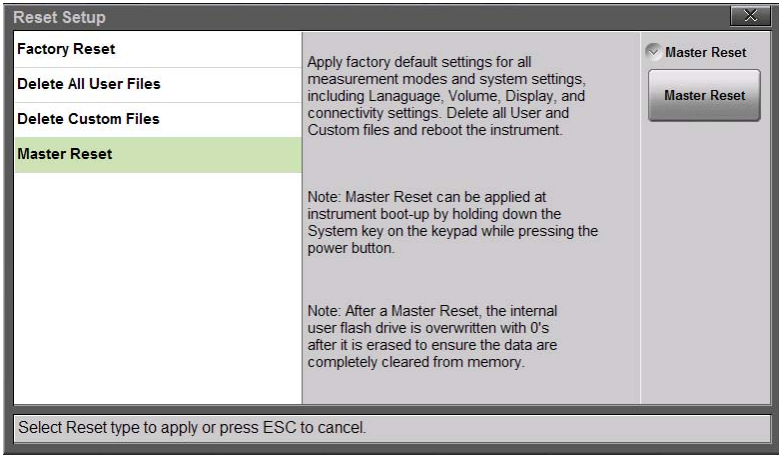

Figure 1-3. Master Reset
1. Press the **Preset (1)** button.
2. Press the Reset drop down submenu then press the Reset button. Select Master Reset and read the description on the screen (Figure 1-3).